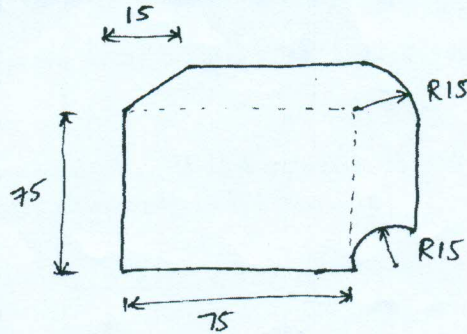

Fig.Q7(a)
- 7 a. The top view of the component is shown in Fig.Q7(a). Write the complete part program with respect to absolute programming to mill the profile of the part. Part thickness is 10 mm and cutter dia is 10 mm. Assume suitable data.